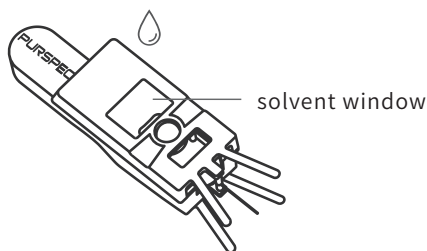

Figure 3.3 Calibration Cartridge
1. Use the calibration cartridge, as shown in Figure 3.3. Add 4-5 drops (about 150 μ L) of calibration reagent/solution to the solvent window, and insert the cartridge into the MS inlet in the front of the instrument.